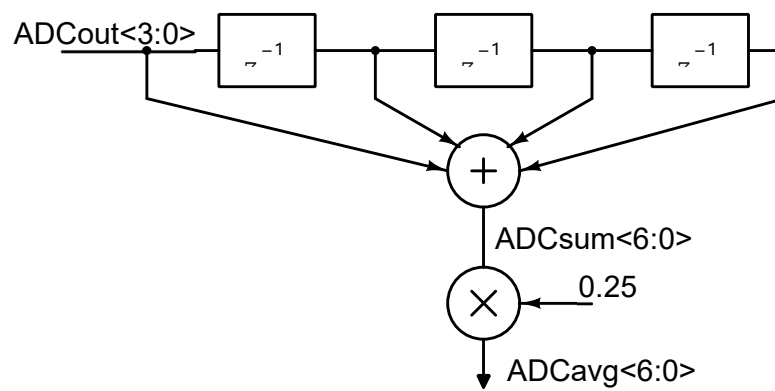

Figure 4: Serial data transmission using sclk and sdin lines.
7. The ADC output is to be filtered through a 4-tap moving average filter as shown in Fig. 4. While this is expected to be operating at all times, its outputs when `i_resetbAll=0` is not relevant. Implement the filter as a part of the backend. If the `ADCavg ≤ 12`, set `o_lbias_2x=0` and `o_core_clock=i_clk`. If the `ADCavg > 12`, set `o_lbias_2x=1` and `o_core_clock=i_clk/4` (frequency division). The state of the `o_core_clk` prior to this does not matter.
The implementation of the 4-tap moving average filter is shown in fig. 4. z^{-1} refers to one clock cycle delay. The filter ensures that momentary glitchy outputs in the sensor does not affect our decision making. You may use any of architecture for the adder and the multiplier. If you are able to optimize the filter implementation in terms of reducing the number of bits required for each operation you are free to do so, as long as the final transfer function from `ADCout` to `ADCavg` remains the same as shown in fig. 4.